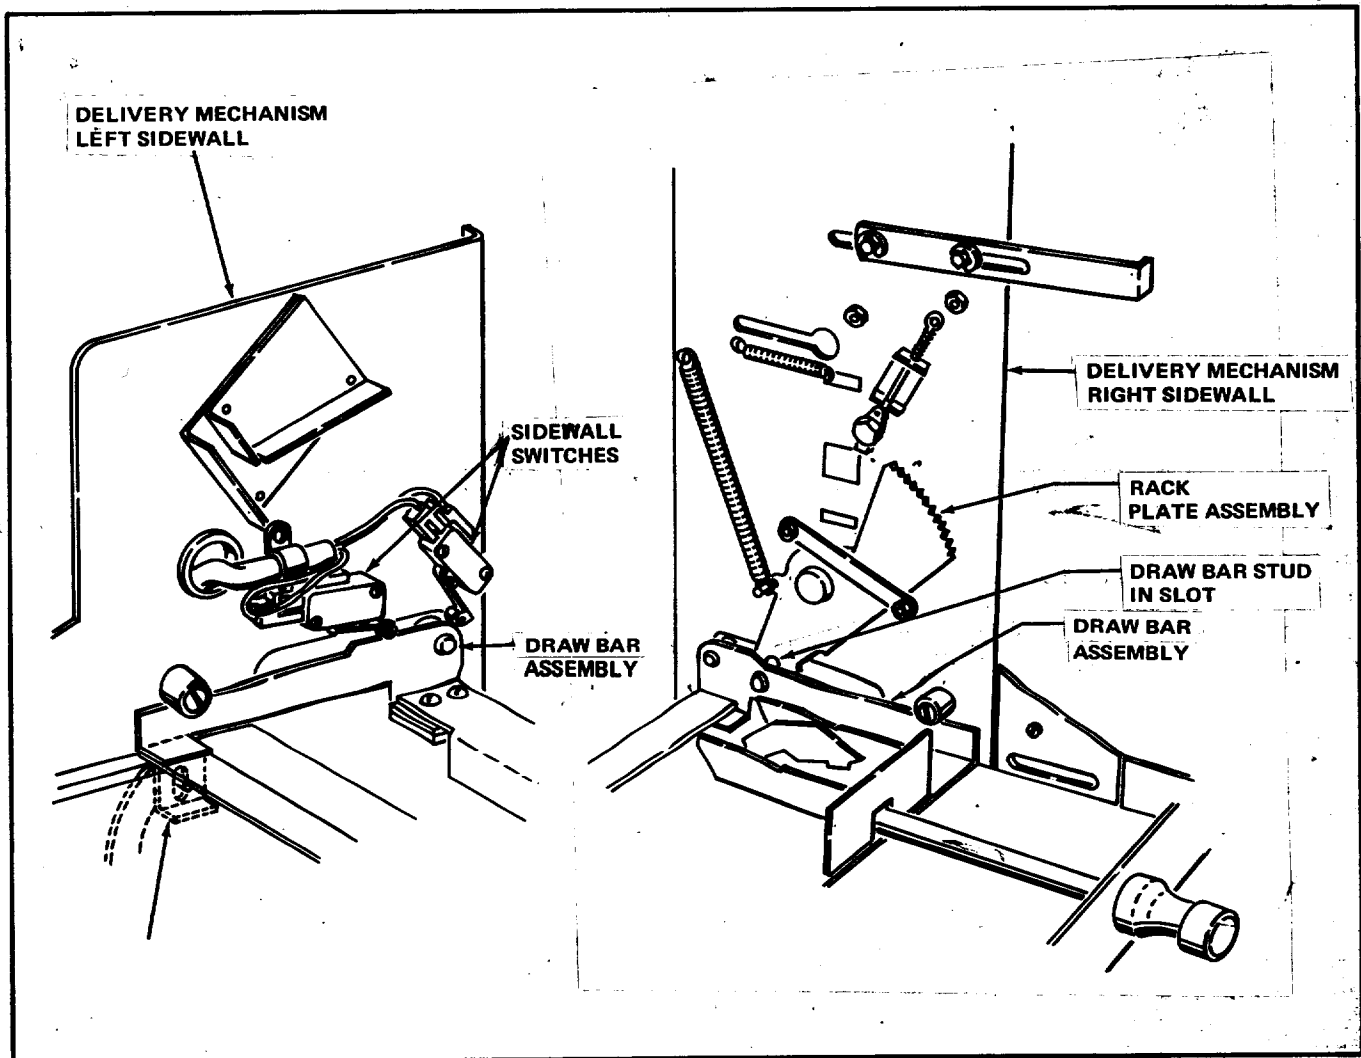

FIGURE III-2
- H. Install the Main Shaft Assembly in the Left Sidewall Assembly. The stud on the end of the Shaft Assembly extension must fit into the slotted guide in the Draw Bar extension on the underside of the Apron Assembly. Lubricate the Main Shaft Assembly pivot and the slot in the Draw Bar. Be sure the Draw Bar Rollers are properly in place in the slots in both the Left and Right Sidewall Assemblies and that the stud on the right extension of the Draw Bar is in the slot in the Rack Plate Assembly. See Figure III-2.
- M. On the replacement Left Sidewall Assembly are two Switches. Be sure the roller on the actuation blade of the Switches is resting on the top edge of the left extension of the Draw Bar Assembly and are not caught between the Draw Bar Assembly and the Sidewall. See Figure III-2.